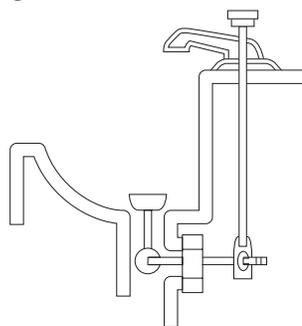

Figure 4
- Pop-up Drain: Remove lift rod and drain plug (Figure 4).